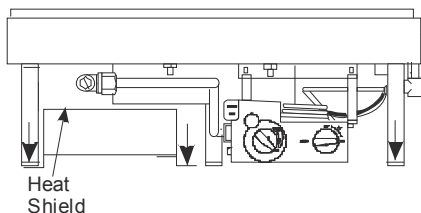

Figure 70
4. If fitting a heat shield fold it to shape in accordance with the instructions supplied and position the left hand fixing hole on the heat shield coincident with the hole in the leg of the tray and mark drill and plug the three holes (see **Figure 70**).
7. For LPG models, the gas bottle must be fitted with a non-adjustable, low-pressure regulator with 37mbar (GB) supply.